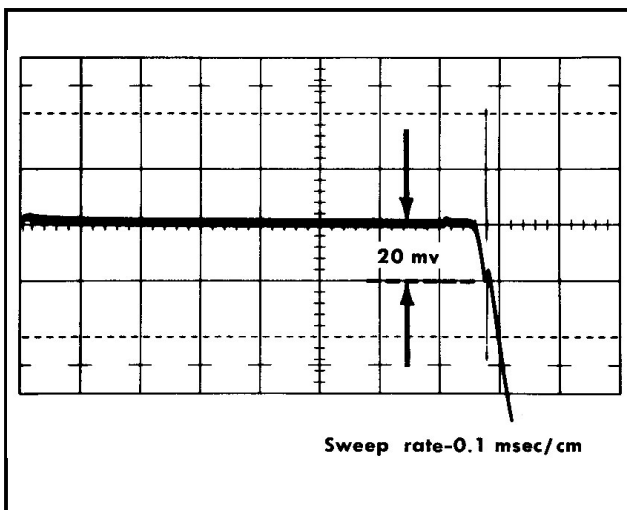

Fig. 5-19. Typical test oscilloscope display for checking adjustment of R320 (COMPARATOR LEVEL).
i. Check for a waveform similar to that shown in Fig. 5-19. The transition to the spike in the trailing edge of the waveform should be about 20 mv (1 cm) down from the top of the pulse.